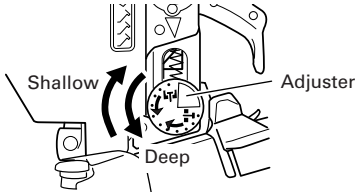

Fig. 11
- Adjusting the adjuster (Fig. 11)
Carry out test driving. If the nails are too deep, turn the adjuster to the shallow side (H mark). If the nail depth is too shallow, turn the adjuster to the deep side (L mark) (see Fig. 11, 12). The adjuster moves 0.5 mm every time it is rotated with a click.